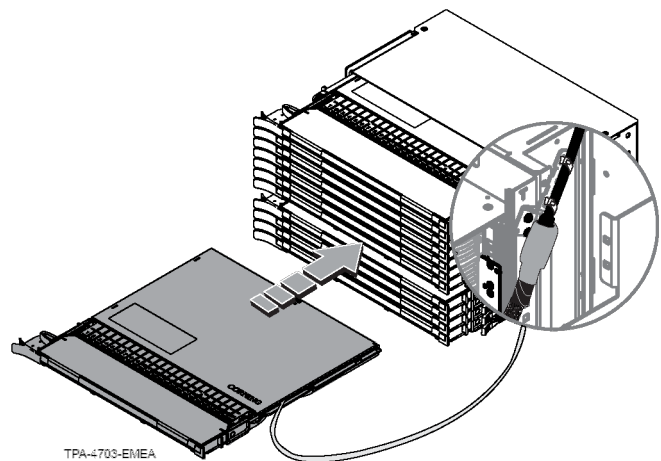

Figure 62
Step 31: Insert cassette into the housing, starting at the top of the housing (Figure 62).